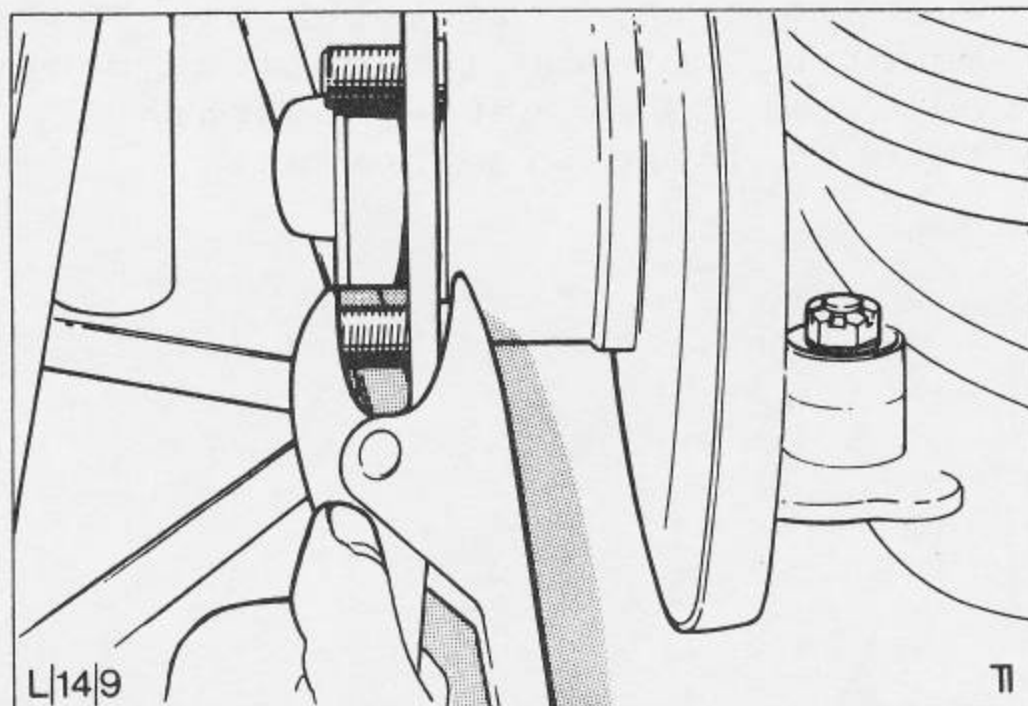

Fig.24 Pressing out wheel stud.
4. Using ball joint separator tool number 13-006 press stud out of hub flange Fig.24